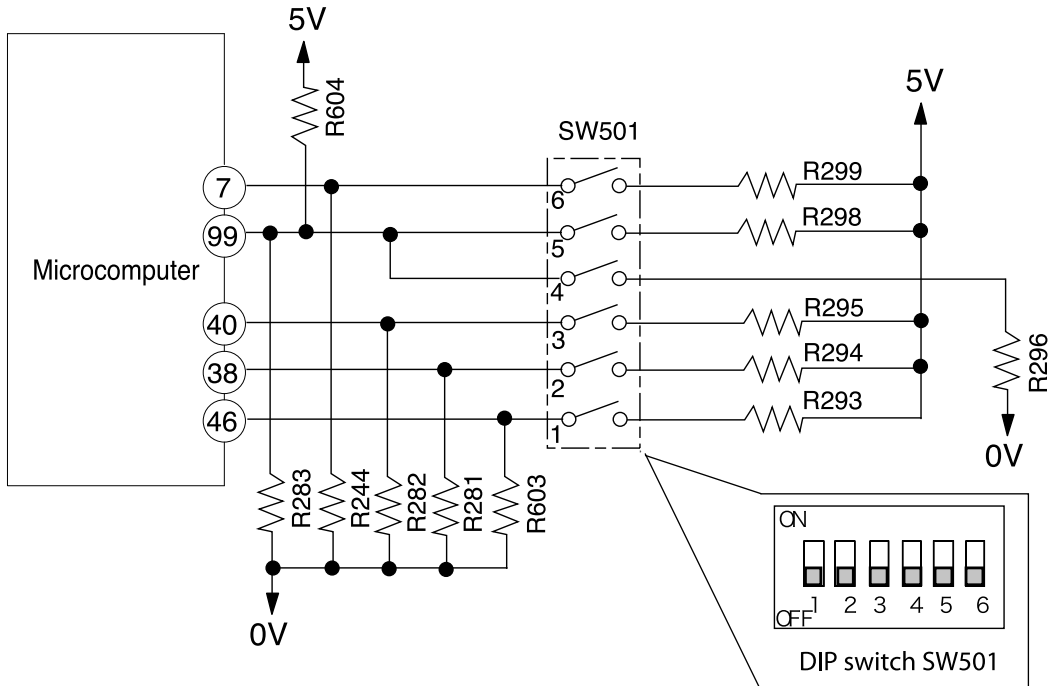

Fig. 10-1 Dip switch Circuit
- Fig. 10-1 shows the dip switch circuit; the table shown in Fig. 10-2 are function and setting position from ①–⑥ of the switch no.